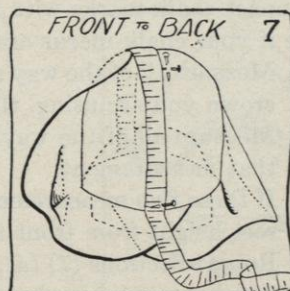
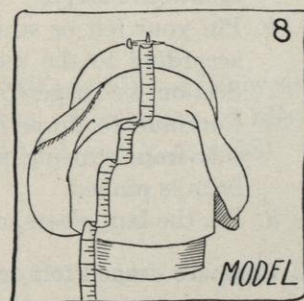

FIG. 7.
FIG. 8.
- (e) Measure from front to back of crown block directly over model. Feel through the model at front and back to be sure that you are at the bottom of the crown block (see Figure 7).
- (f) At the point where the tape measure touches the pin, put another pin at right angles to the first pin (see Figure 7). The point where the two pins cross is the center tip of the model.
- (2) Find the height of crown at front, back, left side, and right side.
- (a) Pin tape measure to model at point where pins cross, and stretch it down to direct front of model (see Figure 8); jot down that measurement and label it F (front).
- (3) Find the center of the felt or the straw crown that you are using.